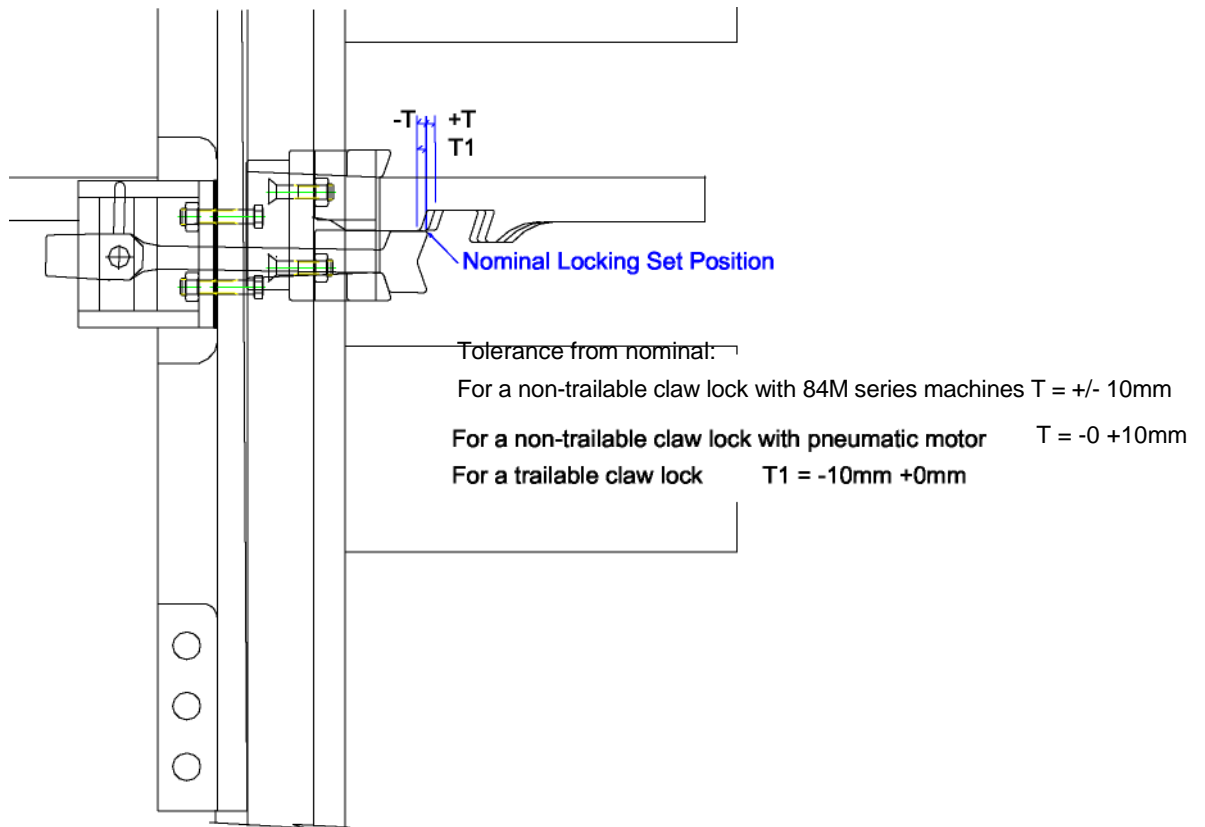

Figure 2.1 - Front drive Locking Set Dimension
3. Check the position of the drive bar relative to the claw - the “locking set dimension”. This should be as shown in Figure 2.1.
6. Check the “locking set dimension” for the opposite switch. This should be within the range shown in Figure 2.1. If this dimension is not correct to within the tolerances shown, refer to Section 3 ‘Troubleshooting’.